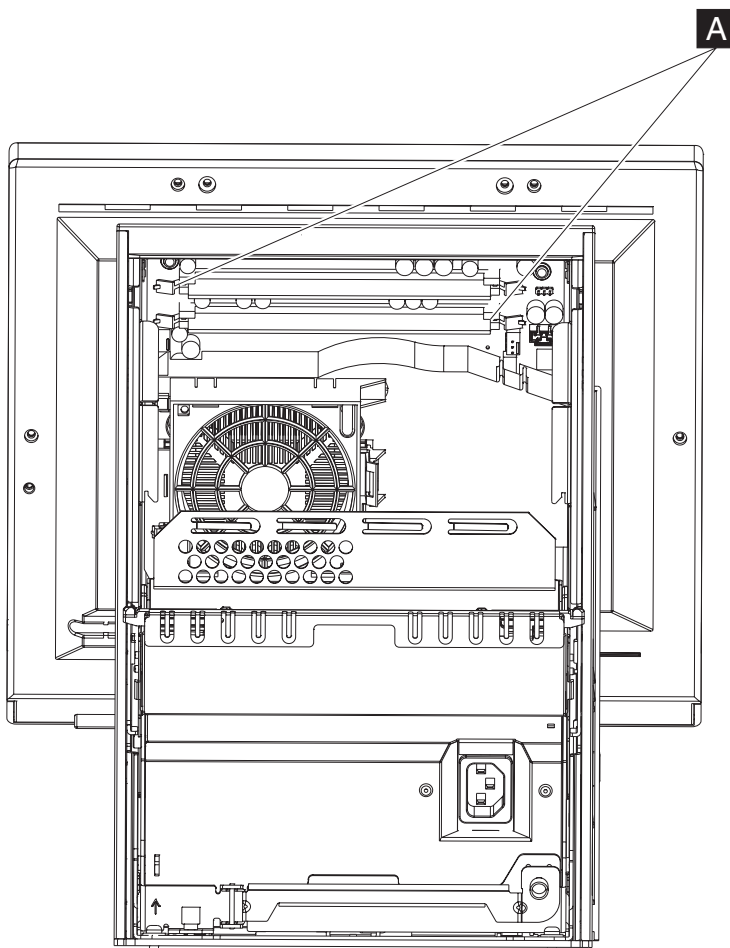

Figure 30. Memory socket location
All system boards have 2 memory sockets. See Figure 30. The factory-installed base memory occupies one of the sockets. If your order is greater than the base memory, you may or may not have an empty socket.
4. Locate the memory modules. See **A** in Figure 30.